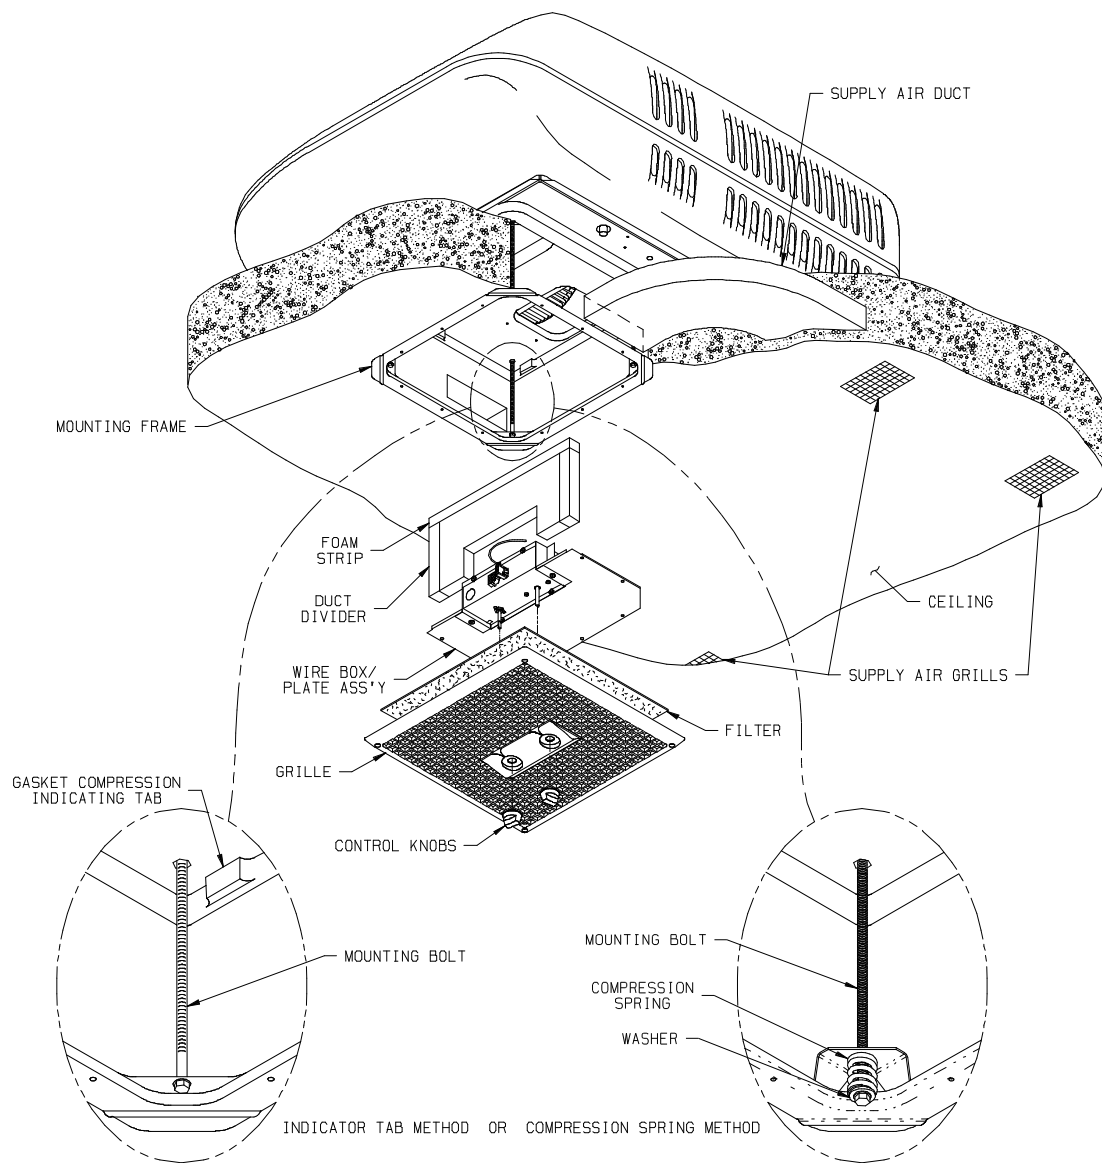

FIGURE 3
2. Position the mount frame into the ceiling opening. See Figure 3.
3. Using the four bolts provided, secure the mount frame to the roof unit. The four mounting bolts are to be applied up through the bottom of the mount frame and into the bottom of the roof unit. Some models include compression springs that should be tightened just until springs achieve closure. See Figure 3.
5. Remove ceiling plenum electrical box. Retain box and two screws for reattachment. See Figure 3.